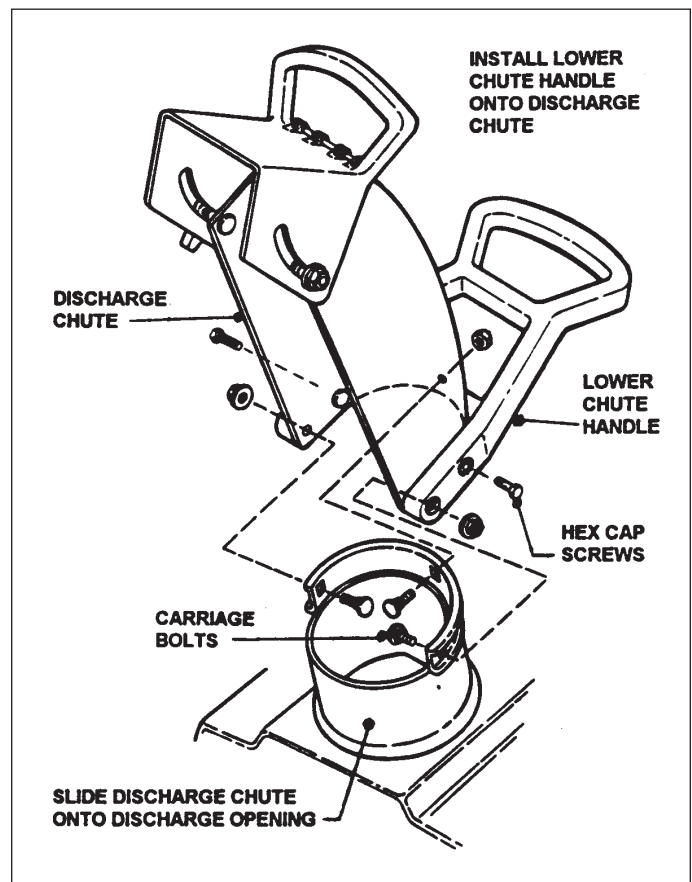

Figure 2. Install Discharge Chute
3. Install the lower chute handle onto the discharge chute with two hex head capscrews (Figure 2).
4. Install the chute/handle assembly onto the discharge opening and secure with three carriage bolts and nuts (Figure 2). Tighten all hardware securely. Do not overtighten.